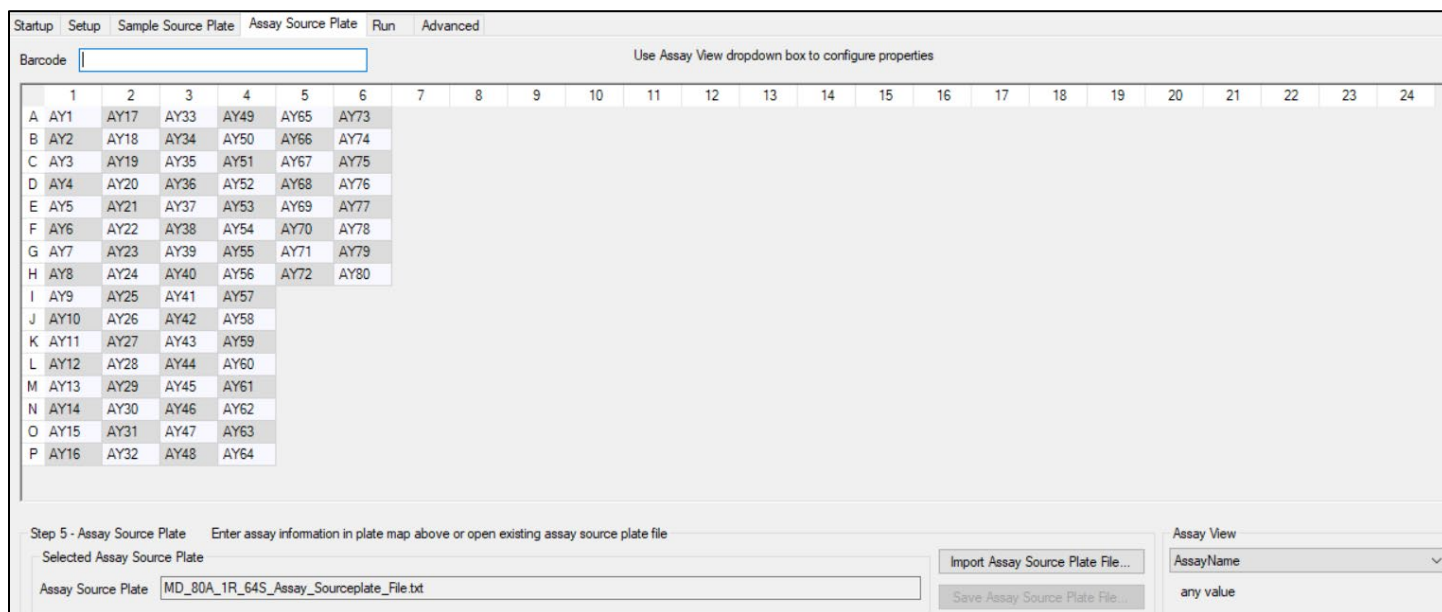

Figure 35. Assay source plate tab.
1. Click the *Assay Source Plate* tab (Figure 35). An assay source plate map that corresponds to the SmartChip Layout (selected on the *Setup* tab) is shown. You can use this map as a guide for placing assay mixtures into your assay source plate or the printable 384-well source plate maps in Appendix B, Section D.